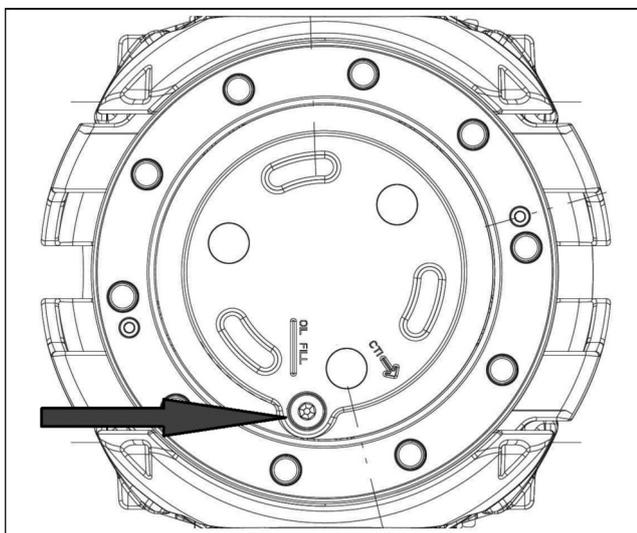

Fig. 4.2
9. Drain oil from wheel end. Fig. 4.2